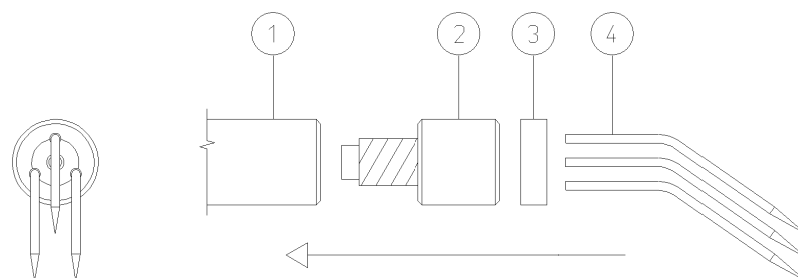

Figure 1.
**5.2.3. Pinner with head claw option (see Figure 1)**